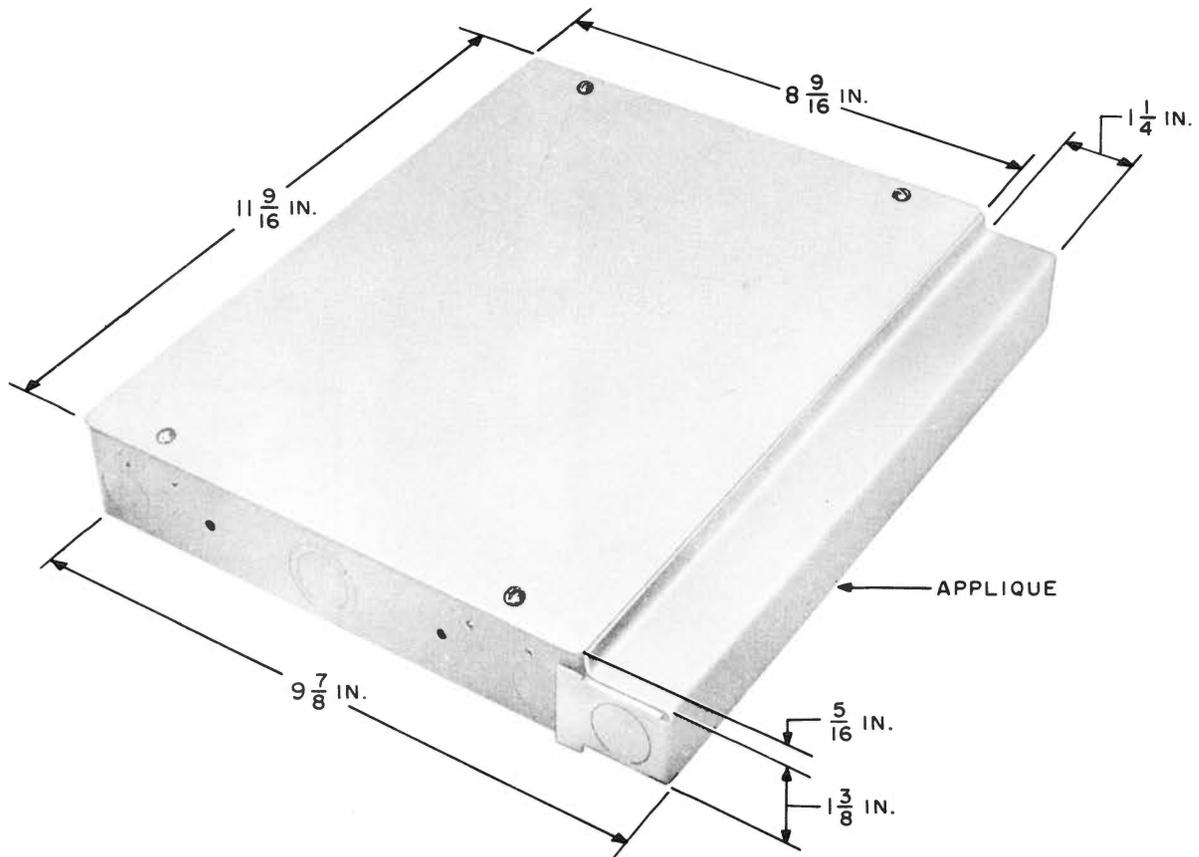

Fig. 6 — 113A Apparatus Box
2.04 Two 113-type apparatus boxes are available for use with these sets. The 113A apparatus box is 8-9/16 inches wide, 11-9/16 inches high, and 1-5/8 inches deep. An applique unit measuring 1-1/4 inch by 11-9/16 inch by 1-3/8 inch is attached to the box to provide cable storage space. The 113B apparatus box is identical to the 113A except that it does not have the applique. It is used where additional cable storage space is not required. Fig. 6 and 7 show these units.